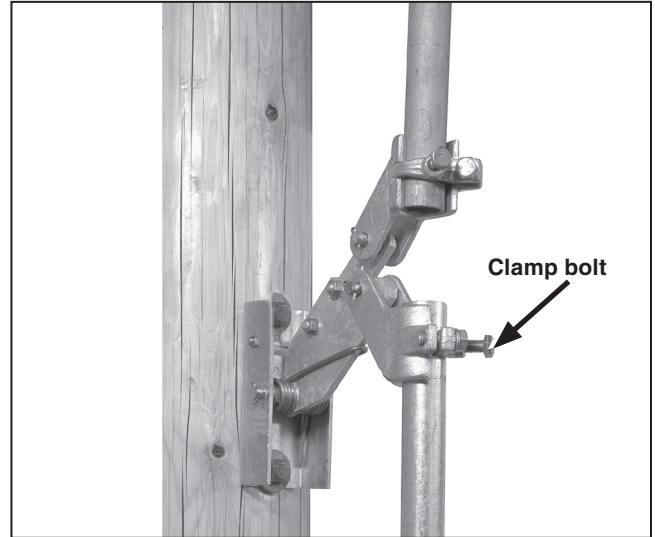

Figure 22. Torquing clamp bolt at lowest rod guide (or bell-crank) coupling.
STEP 20. If there is still slack, repeat the procedure in Step 16 on page 17 but move the operating handle *more* than 20 degrees in the opening direction before torquing the clamp bolt on the lowest rod guide (or bell-crank) coupling. See Figure 22.